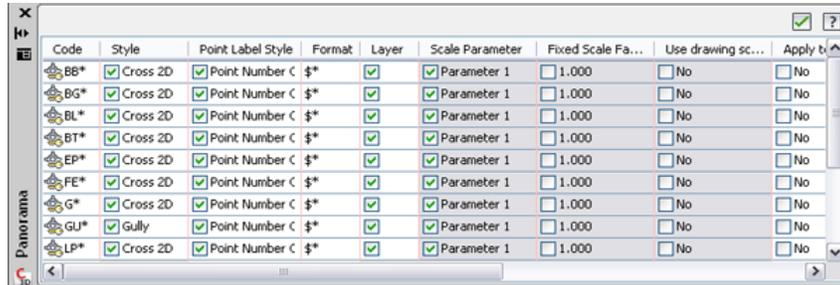

Figure 2: Create description keys editor
- Use the Description Key editor, as shown in figure 2, to create a suitable description key set to match these codes to style points, label descriptions, and elevations accordingly.